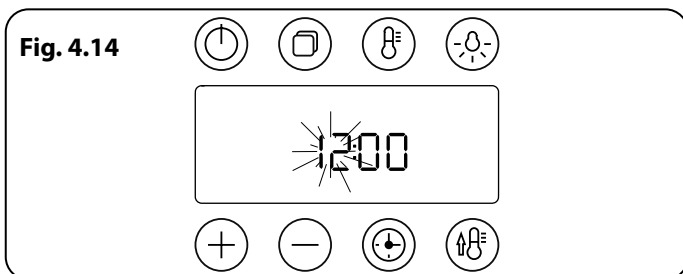

Fig. 4.14
1. Once the cooker is connected and switched on, the hours in the display will flash (**Fig. 4.14**).